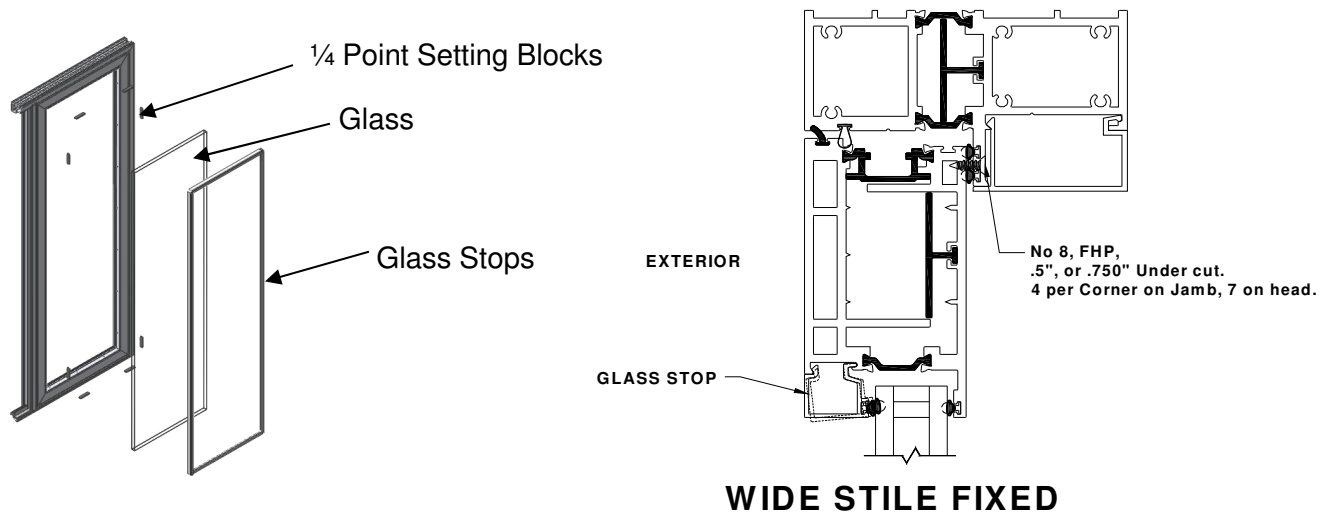

Figure 8:
- Install glass setting blocks (total 6 pcs per panel) at ¼ points into each jamb, head and sill for all four corners (Figure 8). To properly support insulated glass panes, stagger the setting blocks.
- Install glass to panel frame then install glass stops (Figure 8).